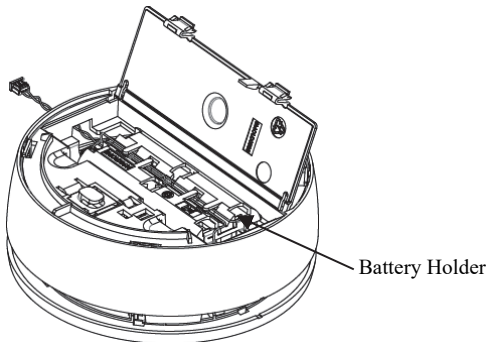

Figure 8
4. Open the battery compartment cover (*see Figure 8*).